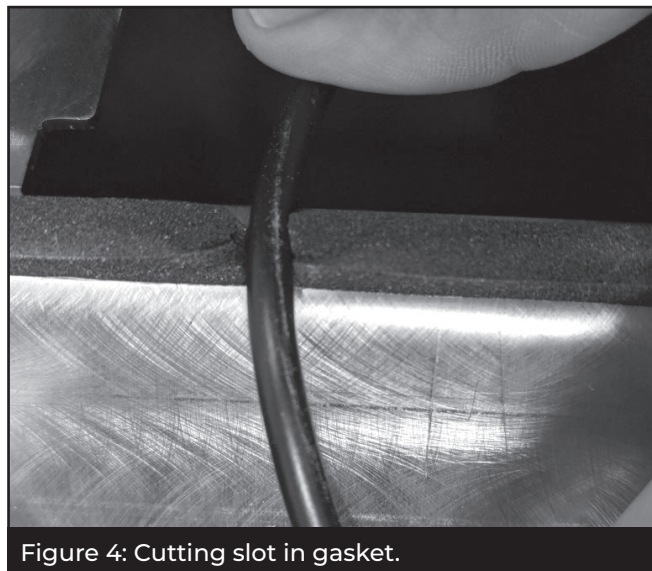

Figure 4: Cutting slot in gasket.
- 7** Cut a small slot in the gasket to allow for the wire to feed through. Holding the bracket up to the truck will give a good idea where to cut the slot to avoid pinching the wire. (Figure 4)
- 8** Feed the wire through the hole behind the 3rd brake light and route it through the cab to a suitable switch mounting location. (Figure 4)